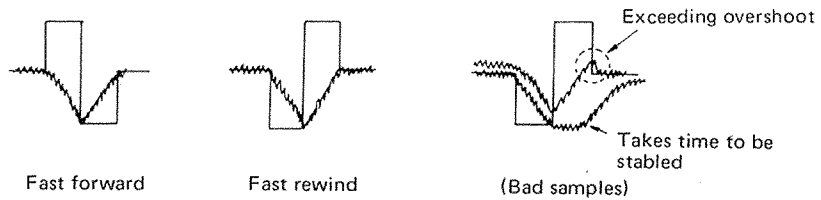

Fig. 31-2
- (7) If the optimum points for fast reverse and fast rewind do not coincide, set VR305 at the middle position.
- NOTE:** Trigger polarity should be changed for observing fast reverse and fast forward waveform. (Fig. 31-2)